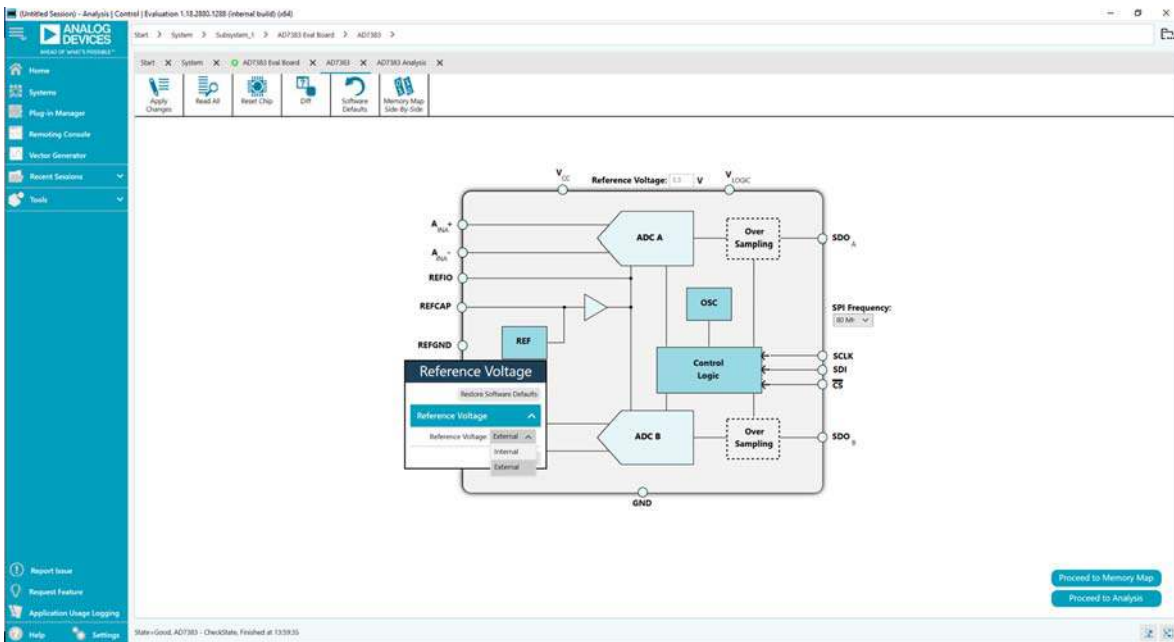

Figure 16. **Reference Voltage** Configurable Pop-Up Window
2. Click the **REF** block in Figure 16 to access the **Reference Voltage** configurable pop-up window, and select **External** from the **Reference Voltage** dropdown menu. The default value for the external reference is set to 3.3 V and 2.5 V for the internal reference.